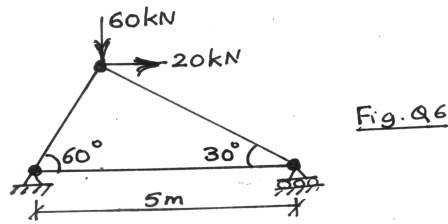

Fig. Q6
6. Analyse the pin-jointed plane truss shown in Fig. Q6. By displacement- transformation method. Assume AE to be constant for all members.